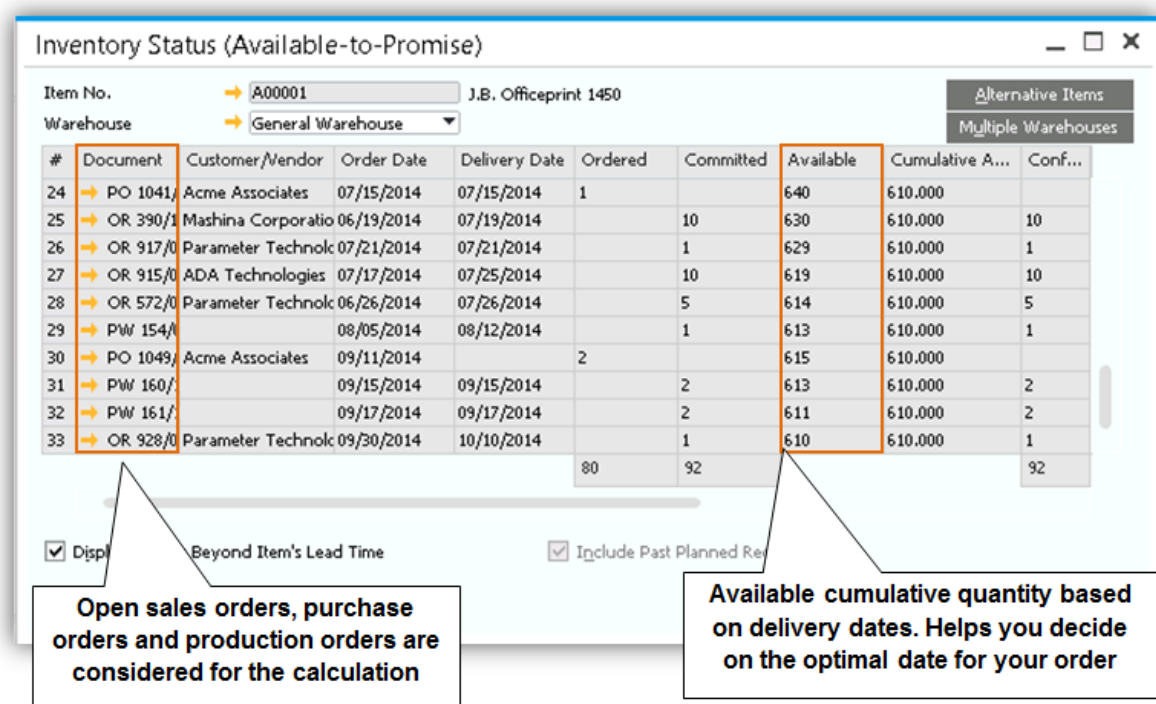

Figure 5-7: Available to Promise
- *Display Available to Promise Report* – the report shows cumulative quantity by date, based on the report you can change the delivery date for that item. See figure 5-7